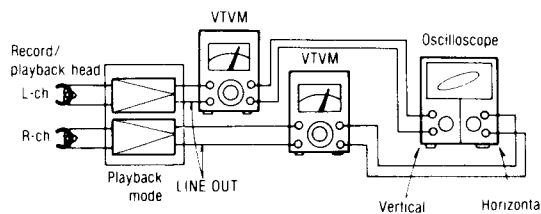

Fig. 9
12. Make connections as shown in fig. 9.